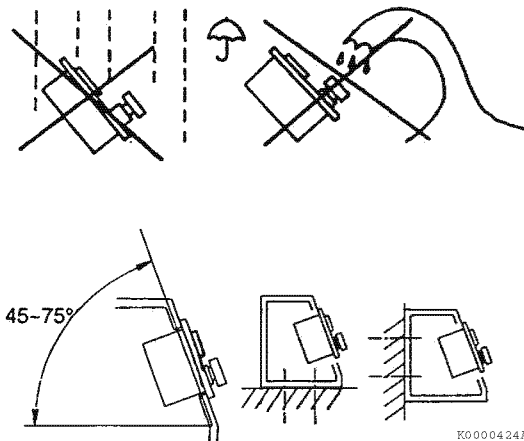

Figure 7-41
3. The angle of the meter is 45 to 75° to the horizontal plane (**Figure 7-41**).